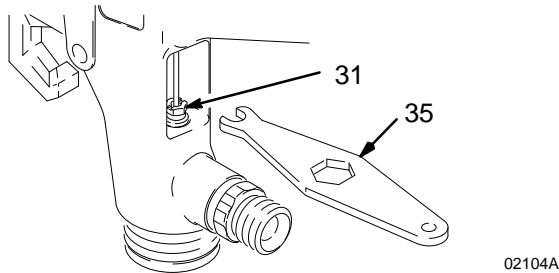

Fig. 10
- Tighten the packing adjustment screw (31) with the gun wrench (35), as shown in Fig. 10, until you can feel a slight drag on the fluid needle. Do not over-tighten the screw as this may bind the needle movement.
- Trigger the gun to test the needle movement. If the needle does not return after the trigger is released or is slow in returning, loosen the packing adjustment screw (31) with the gun wrench (35) until the needle returns freely. See Fig. 10.
- Trigger the gun while you install the fluid nozzle (20) with the gun wrench (35).